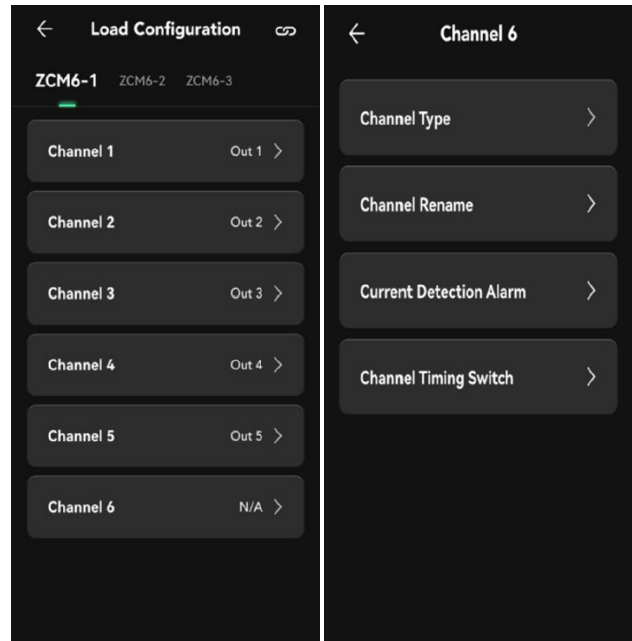

Figure 15: Load configuration
- Users can configure each load channel separately, click to enter each channel configuration interface, as shown in figure 15: